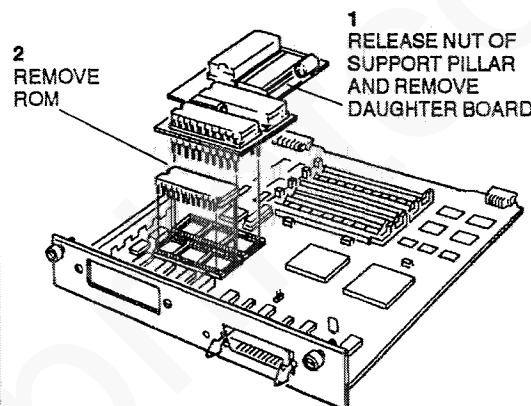

Figure 1. PCL5 (Interim) Removal
4. (Figure 1) Remove the daughter board and ROM from the ESS PWBA.